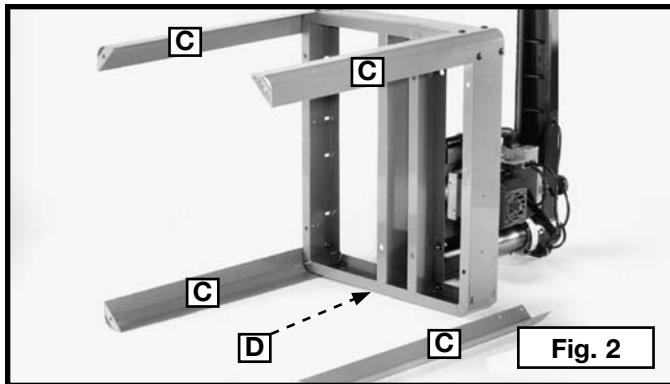

Fig. 2
2. Place the radial arm saw on its back. Use sixteen 5/16-18 x 5/8" carriage head screws to attach the legs (C) Fig. 2 (three of which are shown attached) to each corner of saw base (D). Place the screws through the stand, then use a flat washer, a lock washer, and a nut to secure them. Hand tighten the nuts.